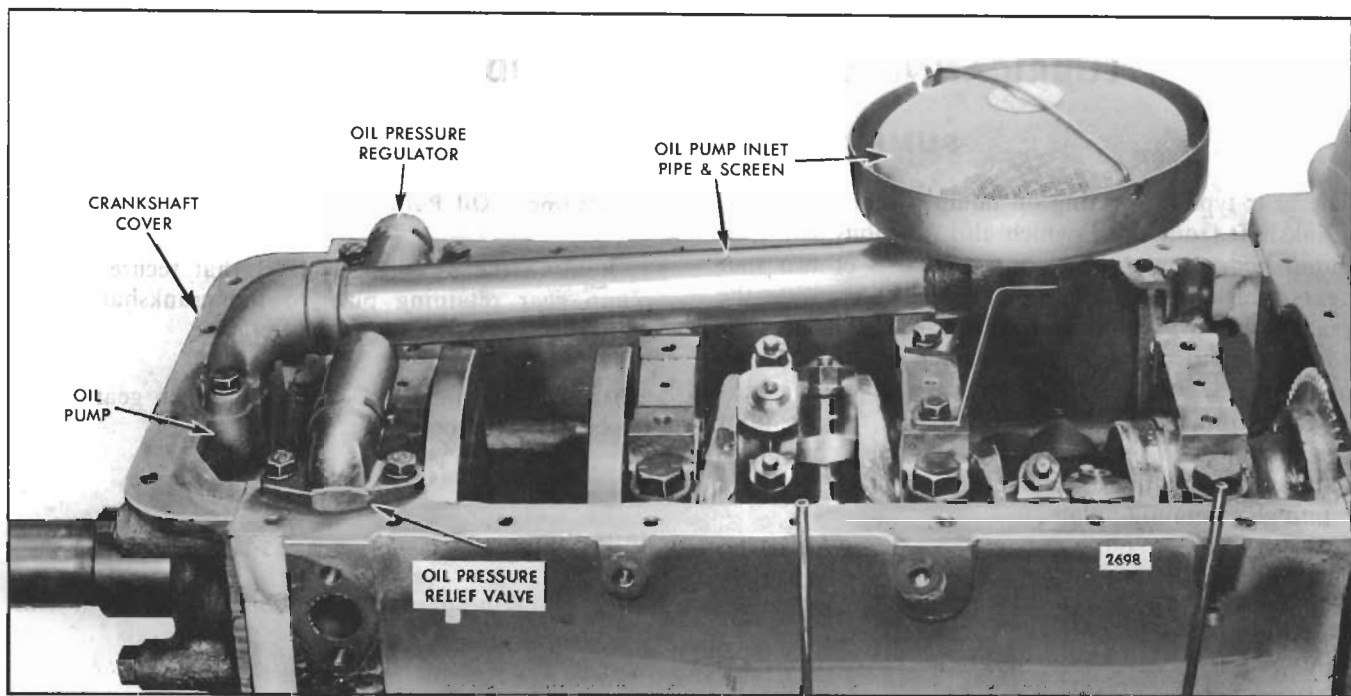

Fig. 1 - Typical Lubricating Oil Pump Mounting (6V or 8V Engine)
2. Refer to Fig. 1 and install the oil inlet pipe and screen assembly. Use a new gasket between the oil inlet pipe and the crankshaft front cover.